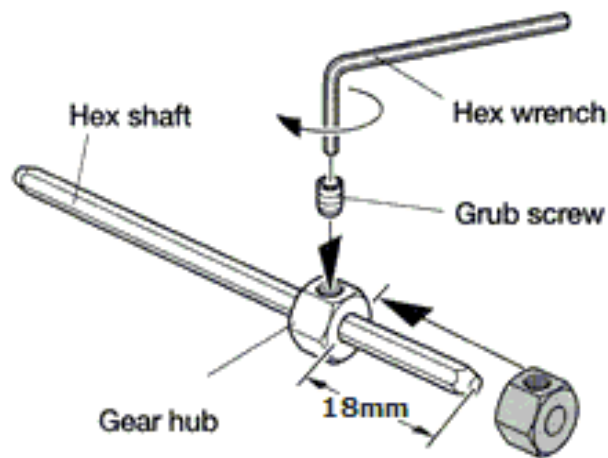

Figure 1.9
3. Place a gear hub on each of the hex shafts approximately 18mm from the end and secure with a Grub screw. Do not over-tighten as actual position will be adjusted later. See figures 1.9 and 1.10.